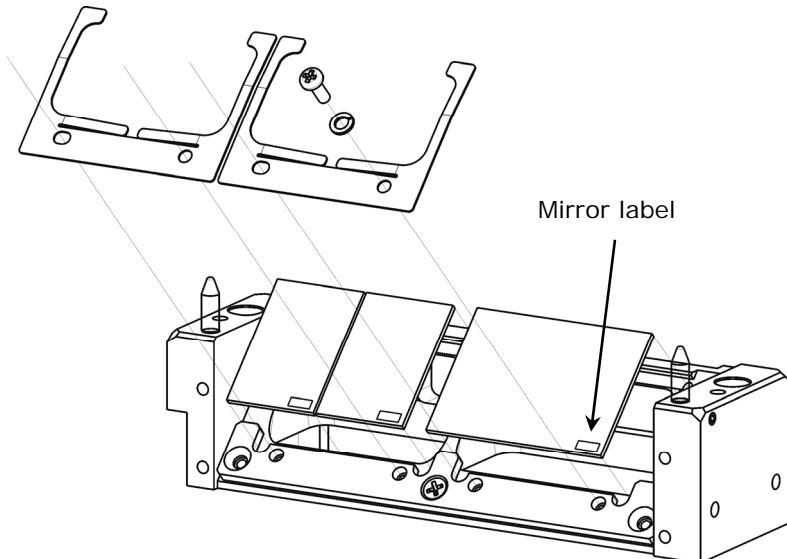

Figure 7: Mirror orientation; labels are face-up and readable
3. Use the Phillips screwdriver to remove the black metal bracket that holds the mirrors in place (see **Figure 7**). Set aside the screws. Lift the bracket away from the holder and set aside.
5. Holding the replacement mirror by its edges, turn the mirror so its label is face-up and readable. Align it in this orientation when you insert it into the holder (see **Figure 7**).